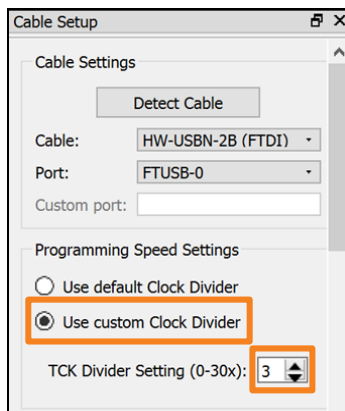

Figure 9.1. TCK Frequency Settings
- If there is a verification error when programming the .bit file, try changing the TCK frequency by setting **TCK Divider Setting** to greater than three. Click **Program** to restart programming (Figure 9.1).